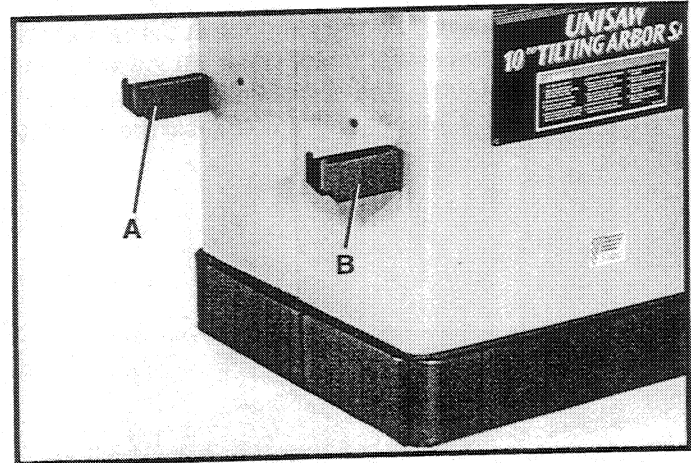

Fig. 57
1. Assemble the rip fence holder brackets (A) and (B) Fig. 57, to the four holes located in the left hand side of the saw cabinet using four 1/2" long self-tapping screws supplied.